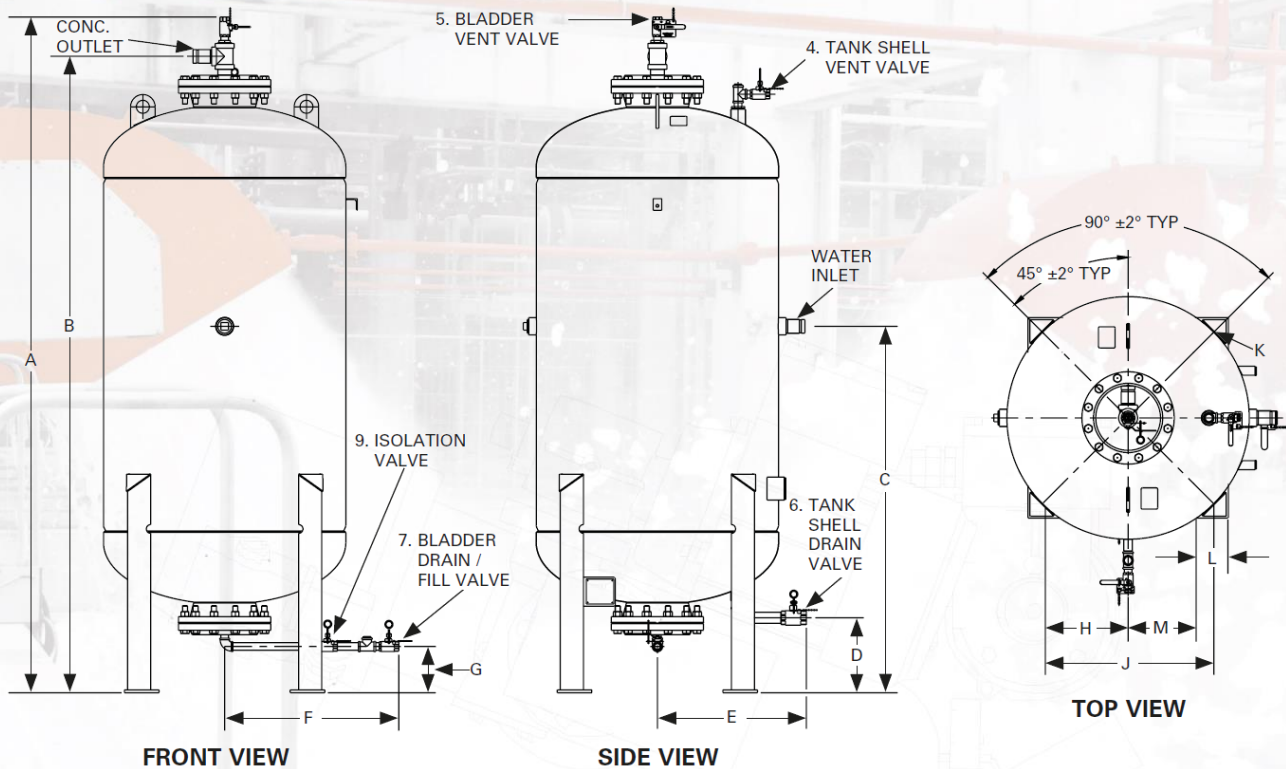

FIGURE 1
* Reference Figure 1 for Valve location
8. Dimension Information (reference figure 1)